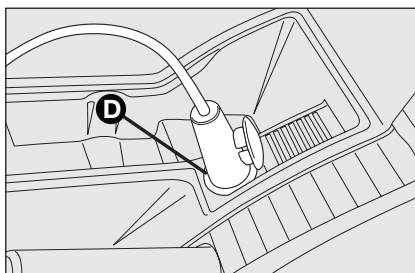
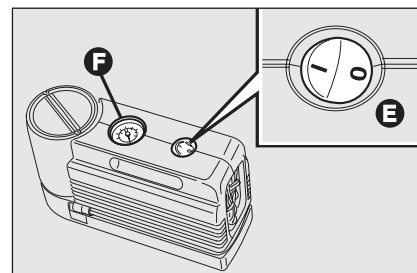

fig. 16
fig. 17
- ☐ make sure the compressor switch **E-fig. 17** is set to **0** (off), start the engine and fit plug **D-fig. 16** into the cigar lighter outlet and then turn on the compressor by setting switch **E-fig. 17** to **I** (on). Inflate the tyre to the pressure specified in paragraph "Cold tyre inflation pressure" in section "Technical specifications". Check tyre pressure on gauge **F-fig. 17** with compressor off to obtain precise reading;